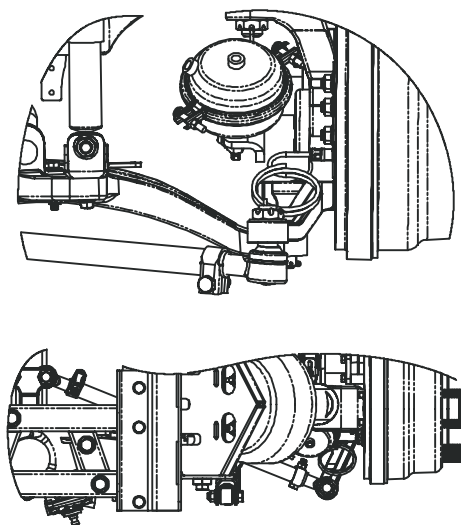

Figure 6 - Tie Rod Orientation
6. Check tie rod clamp orientation (Figure 6)